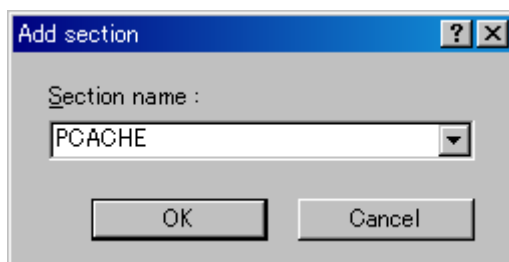

Figure 5.3.13 Section Settings (5)
(5) [Add section] dialog box shown below will be displayed. Enter "PCACHE" for "Section name" as shown in Figure 5.3.13, and press "OK".